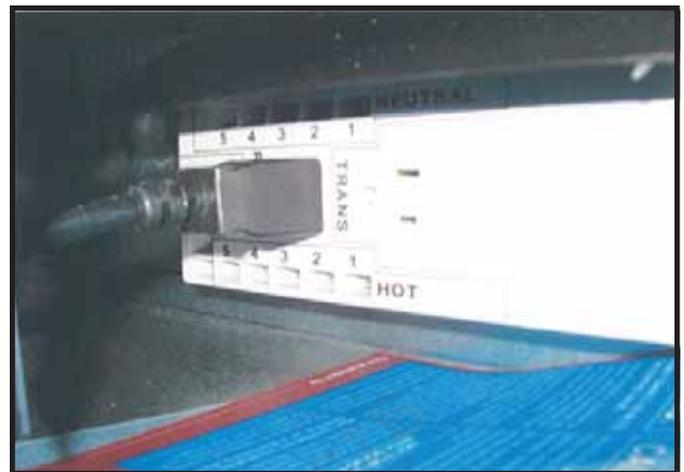

Figure 17.
21. Plug the WSK-MLT into the junction box. See Figure 17.